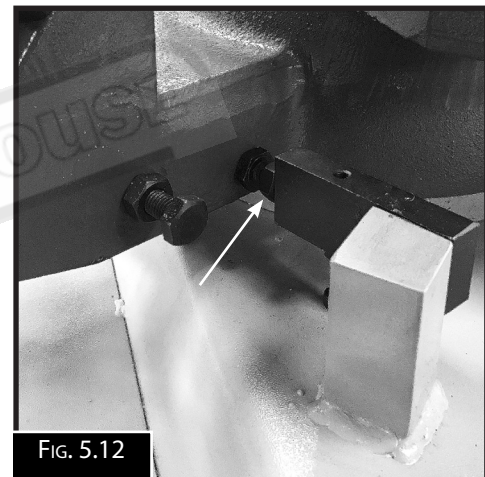

FIG. 5.12
3. Raise the saw bow, then move the head and set the scale to 45°. (Fig. 5.12) then lower the saw bow and lock in place.
4. Check that the 45° head stop is hard up against the casting. If there is a gap between the casting (Fig. 5.12) and the stop screw, then loosen the lock nut and adjust the stop bolt until it rests against the casting.